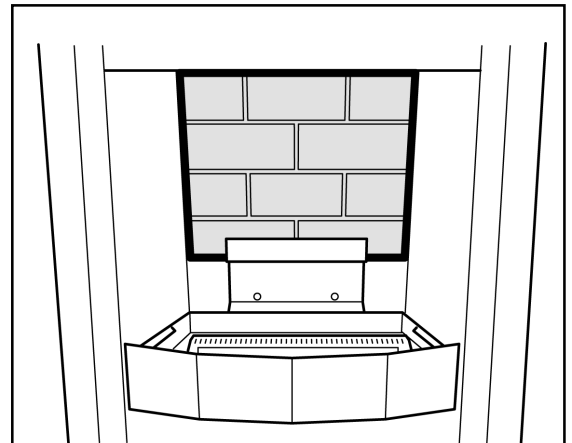

Figure 4 Ceramic Rear Wall Position
1. Fit the ceramic rear wall into the bracket at the back of the firebox. See figure 4.